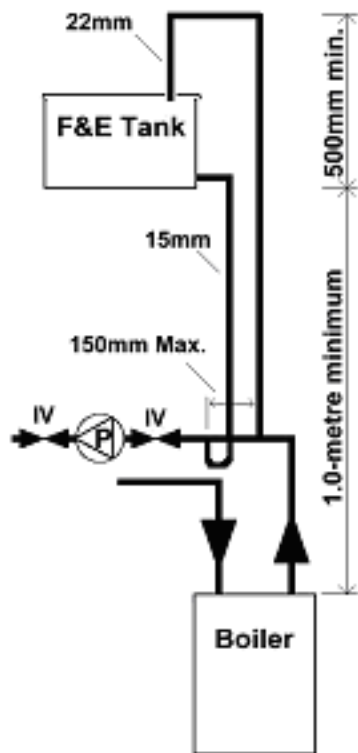

Fig. 4B
If necessary or if preferred, a close-coupled arrangement for the feed and expansion pipe work can be used as an alternative to a combined feed and vent pipe. The configuration of the close-coupled pipe work shall be as shown in figure 4B.
- The cold feed pipe must be inverted as shown in figure 4B.
- The cold feed pipe must be inverted as shown in fig. 4B